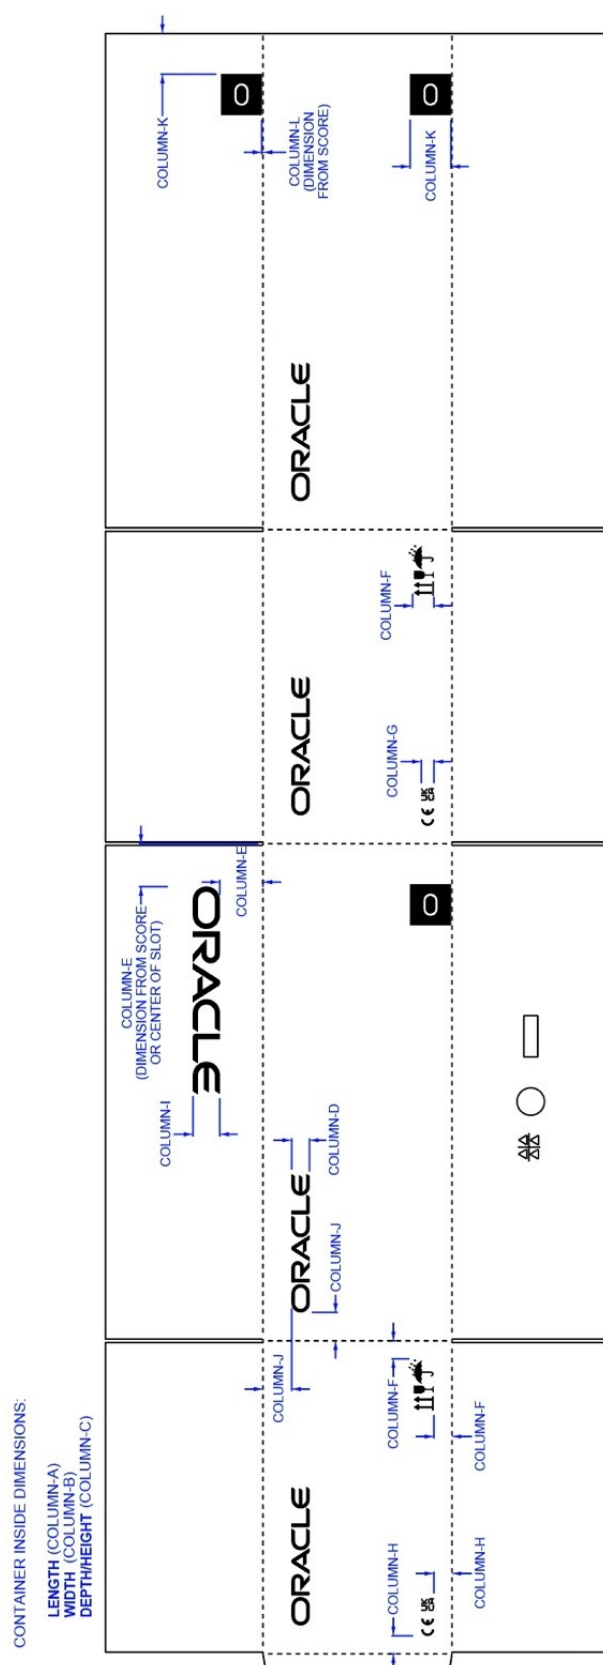

Figure 8. Dimensioned GLO Graphic Artwork Map
- **Die Height** and **Margin dimensions** for sizing and locating artwork is mapped in **Figure 8**, and specified in **columns D-L** of the **Artwork Matrix**. These correlate to the dimensions contained within a row of the **Artwork Matrix**, and are used together to properly size and layout the artwork elements for any container styles, using one of the **graphic standards**.